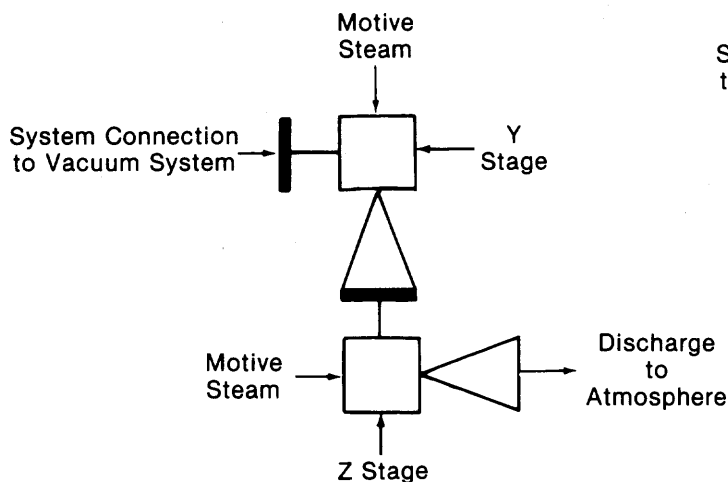
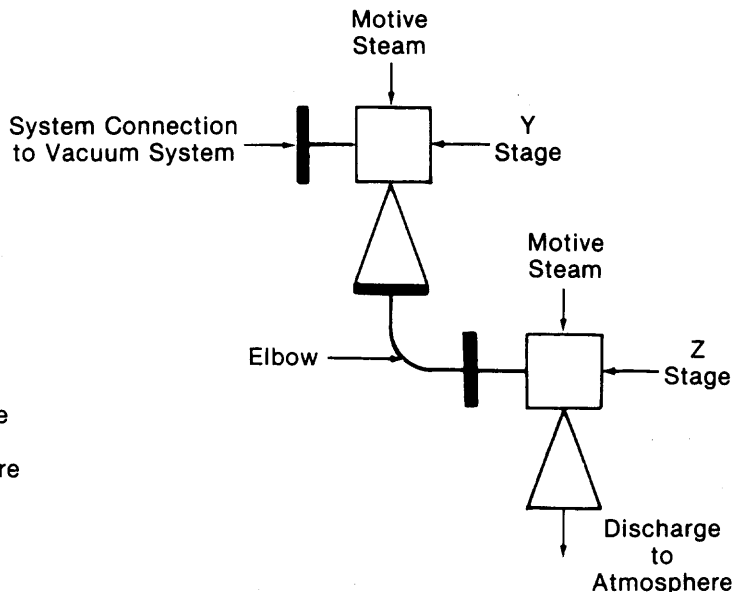

Figure 1
Figure 2
2. Penberthy model 2NC pumps must be installed in correct sequence in accord with outline drawings furnished with the jet pump. Two stage jet pumps may be assembled directly with the Y stage connected to the Z stage as shown above in Figure 1, or an elbow may be located between the Y stage discharge and the Z stage inlet as shown in Figure 2.